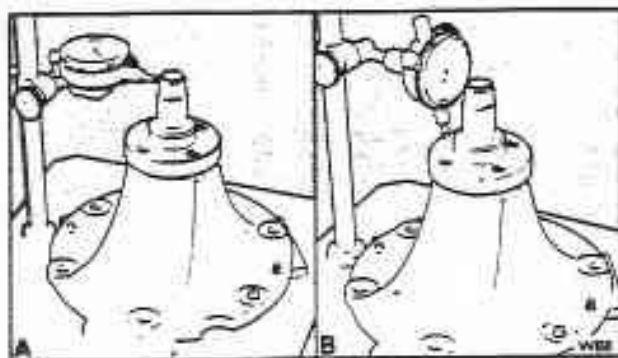

Fig. L4-7 Checking the pulley flange
15. Check the pulley mounting flange run out (see fig. L4-7); this must not exceed 0.05 mm (0.002 in).
16. Check that the pulley mounting flange is square on the pump shaft: this must not exceed 0.025 mm (0.001 in) out of square (see fig. L4-7).